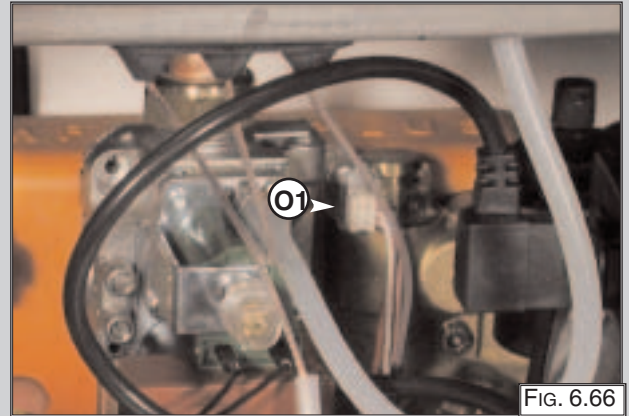

FIG. 6.66
1. Unplug the electrical connector "O1" (Fig. 6.66);